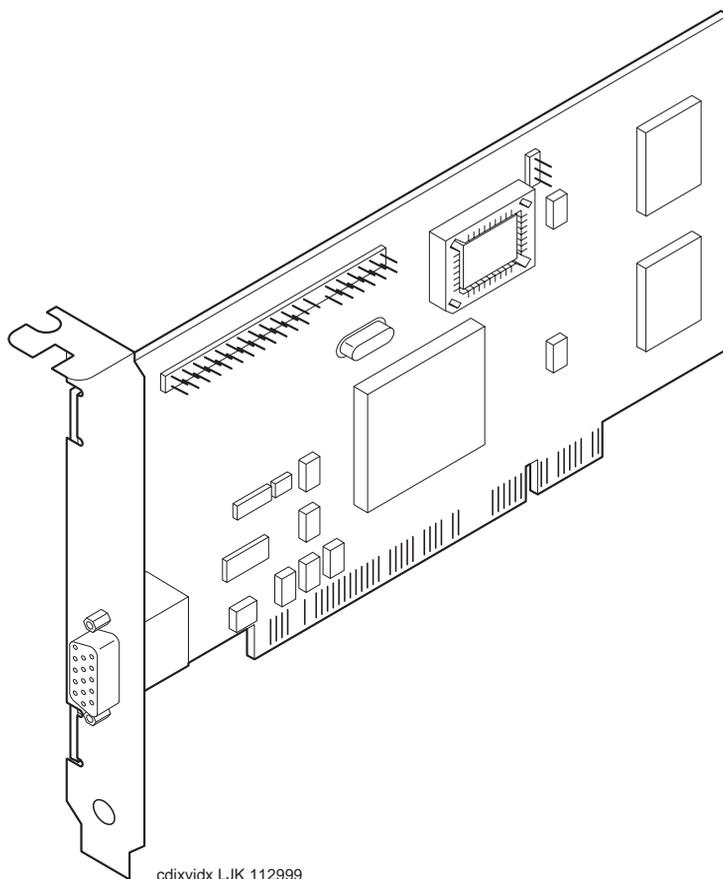

Figure 5-7. Video Circuit Card
1. Verify that the replacement circuit card (Figure 5-7 on page 5-24) is on site and appears to be in usable condition, with no obvious shipping damage.